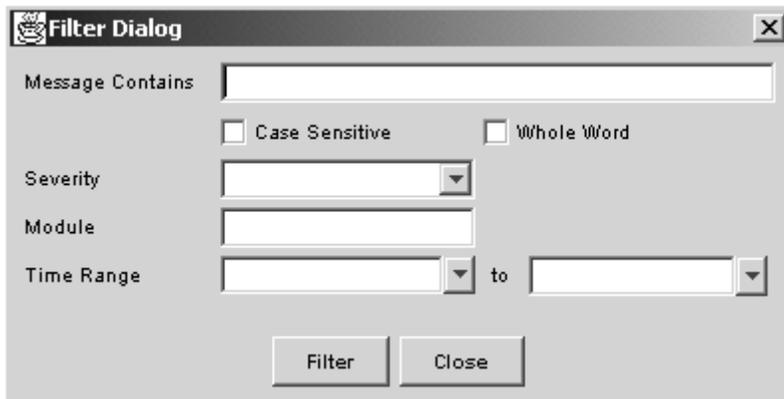

Figure 4–10: Filter dialog box
1. Choose **File > Fabric Manager Log**. The **Fabric Manager Log** dialog box displays, as shown in Figure 4–8.
2. Click **Filter** at the bottom of the dialog box. The **Filter Dialog** box displays, as shown in Figure 4–10.